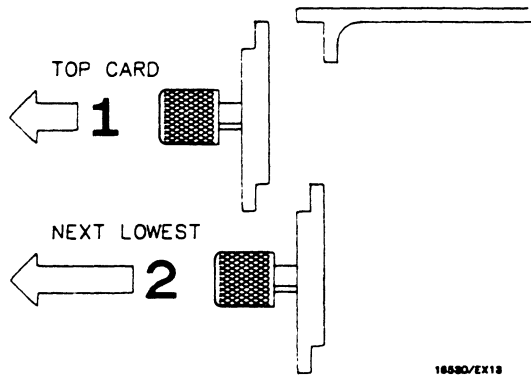

Figure A-1. Endplate Overlap
3. Starting **from the top**, begin pulling the card(s) and filler panel(s) out **half way**. See figure A-1.